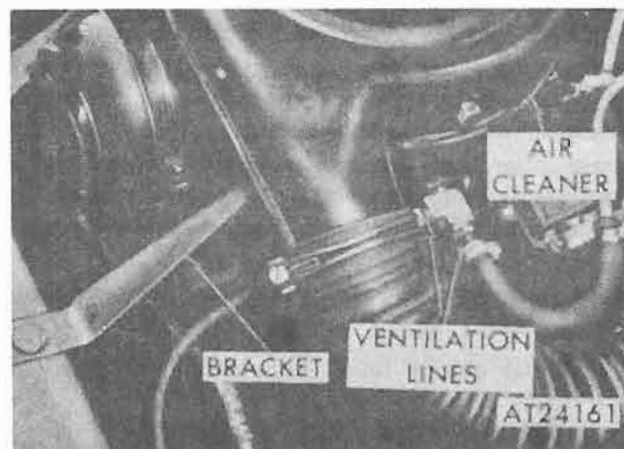

Figure 4-44. Removing or installing air cleaner on *M151A2, M825 and M718A1* vehicles.
(21) Disconnect vent lines at air cleaner assembly. Remove air cleaner from bracket (fig. 4-44).